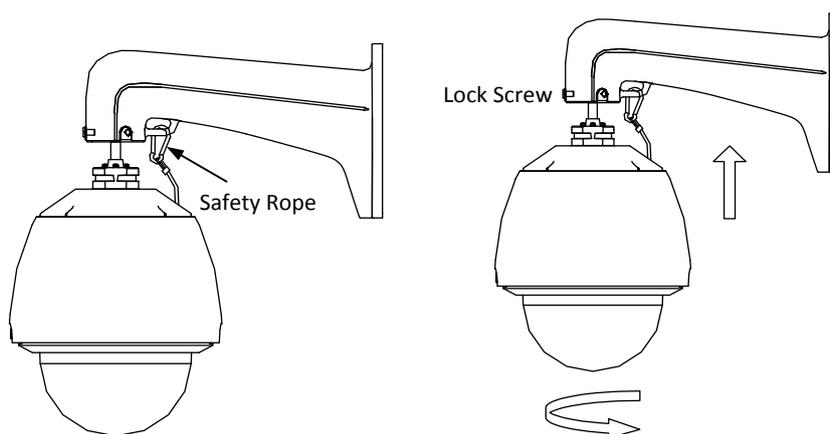

Figure 3-9 Install the Speed Dome
- 1) Hang the safety rope to the speed dome and the hook on the bracket as shown in Figure 3-9.